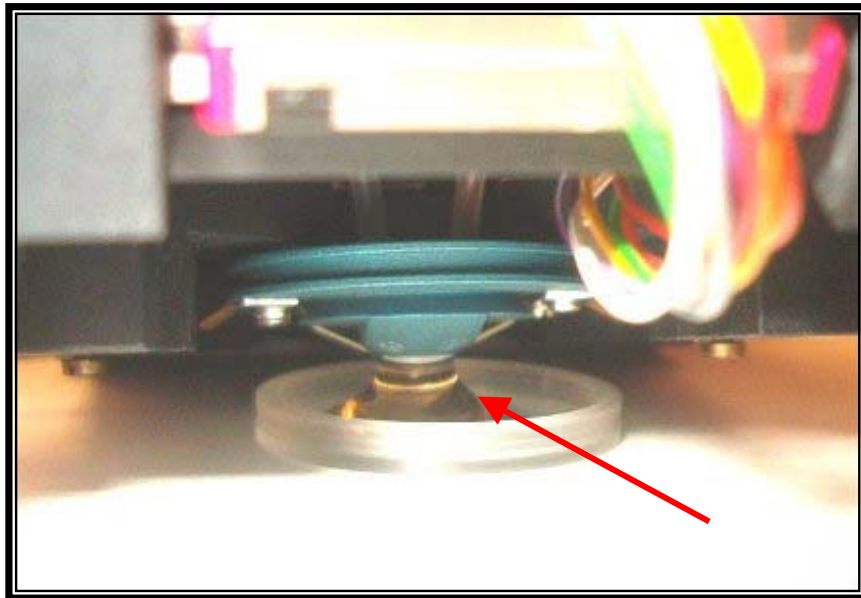

Fig. 4.53 Liquid capillary marked by red arrow
- Now return the SPM head to its position over the sample. A liquid capillary will form between the cantilever holder and the liquid surface (see Fig. 4.53). Please check that the cantilever is fully inside the liquid and the liquid is touching the sapphire window. If this is not the case, either you need to approach the tip to the sample or you need to add more liquid into the pool.